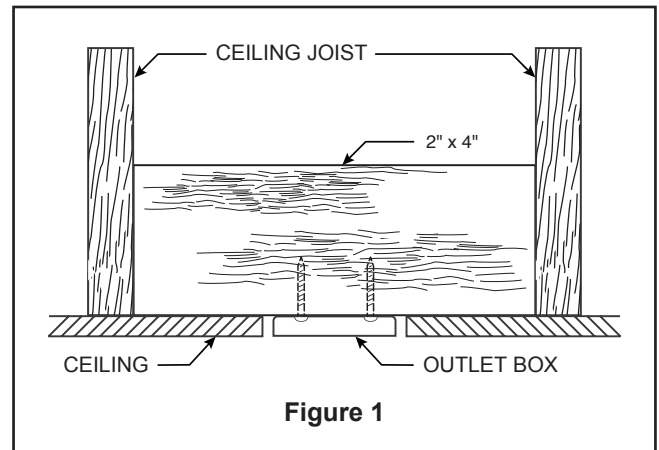
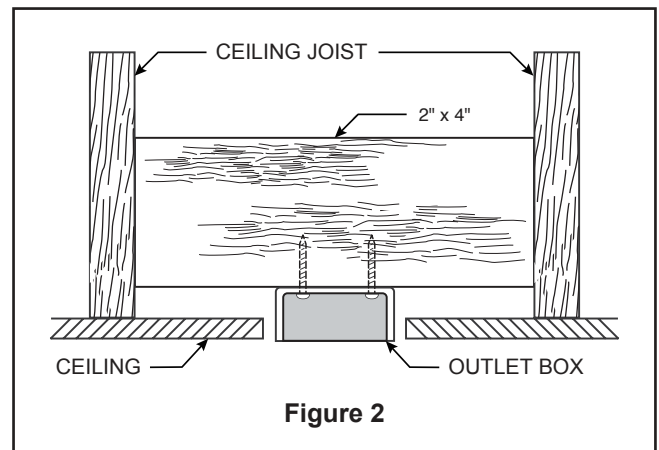
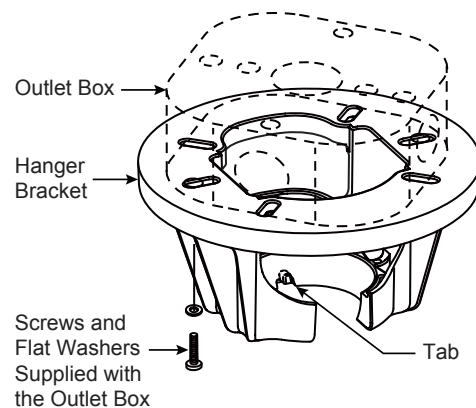
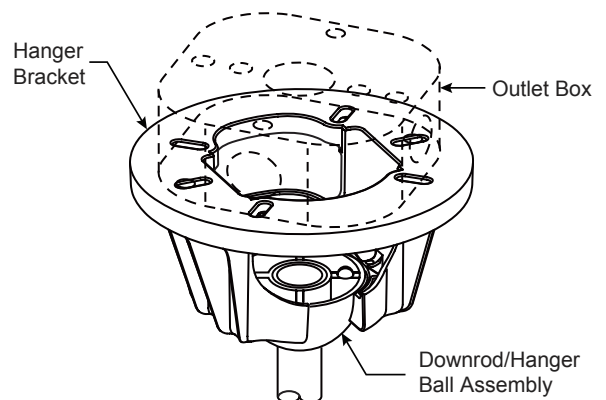

Figure 1
Figure 2
Figure 3
Figure 4
Your new ceiling fan will require a grounded electrical supply line of 120 volts AC, 60 HZ, 15 Amp Circuit. Electrical code requires use of a fan-rated outlet box to support the extra weight and motion associated with a ceiling fan. A fan-rated outlet box will be labeled as such and typically supports up to a 70lb ceiling fan. Fan-Rated Outlet Boxes vary in ratings and design. Ensure the ratings of your ceiling fan outlet box meet the requirements for the ceiling fan being installed. Figure 1, Figure 2 and Figure 3 depicts different structural configurations that may be used for mounting the outlet box.
Low profile outlet box (Figure 1)
Deep outlet box (Figure 2)
Deep outlet box with brace (Figure 3)
3. Loosen the two set screws and locking nuts in the downrod support of the motor assembly. Route the brown, blue, red, gray and yellow wires through the downrod. (Figure 3)
4. Slide downrod into the downrod support on top of the motor. Install the clevis pin by aligning the holes in the downrod support with holes in the downrod. Secure clevis pin with hairpin clip. Tighten the two set screws with nuts in the downrod support. Securely tighten the set screws with screwdriver then fully tighten the nuts by hex wrench. (Figure 4)
1. Securely attach the hanger bracket to the outlet box using the outlet box screws and washers supplied with the outlet box. (Figure 3)
NOTE: Outlet box screws pass through slotted holes of the hanger bracket. (Figure 3)
3. Carefully lift the fan and seat the downrod/hanger ball assembly onto the hanger bracket that was just attached to the outlet box. (Figure 4) Be sure the groove in the ball is lined up with tab on the hanger bracket. (Figure 3)
- 2. Slide the receiver into the hanger bracket before wiring as shown in figure 3.
3. Connect wires using connectors as shown in Figure 4.
3. Attach assembled blades and blade holders to the motor hub using the provided screws with lock washers from the hardware bag. Make sure the screws securing the blade holders to the motor hub are tight and that the blade holders are properly seated. (Figure 3)
4. Remove the six screws in the motor assembly and retain the screws for reassembly in steps 5 and 6. (Figure 4)
3. To make fan operational, remove battery insulator pull tab before use transmitter. Then, follow the remote code setting process. If not used for long periods of time, remove battery to prevent damage to transmitter. Store the remote away from excessive heat or humidity. (Figure 3)
4. If you need to replace the batteries. Remove the battery cover from remote control by screwdriver and retain the screw for later. (Figure 4)